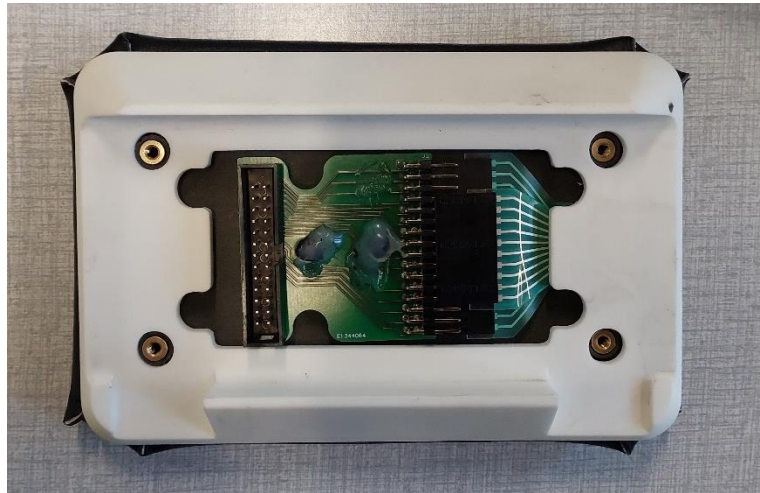

Figure 31. Released back pad.
2. The back pad base with its cushion will be released (See Figure 31).